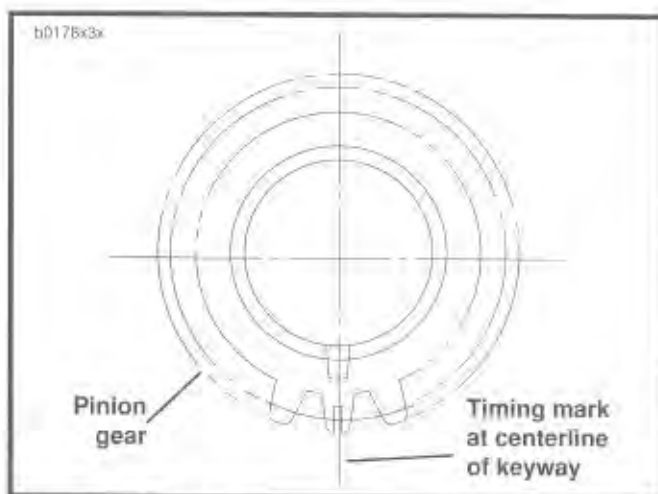
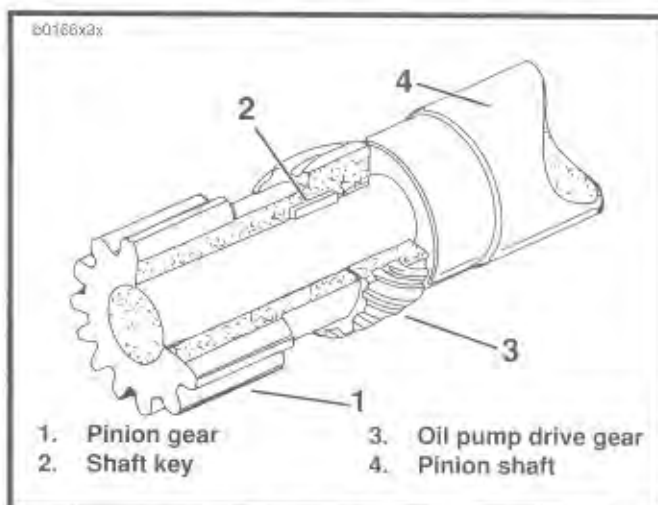

Figure 3-69. Pinion Gear Timing Mark and Keyway
Figure 3-70. Oil Pump Drive Gear and Pinion Gear Installed on Pinion Shaft
- See Figure 3-59. Install oil pump drive gear (12) and pinion gear (5) to pinion shaft. Note that timing mark on pinion gear tooth is aligned with keyway in I.D. of pinion gear, as shown in Figure 3-69. See Figure 3-70. The timing mark will allow you to easily position pinion gear (1) over shaft key (2) and against oil pump drive gear (3) on pinion shaft (4).